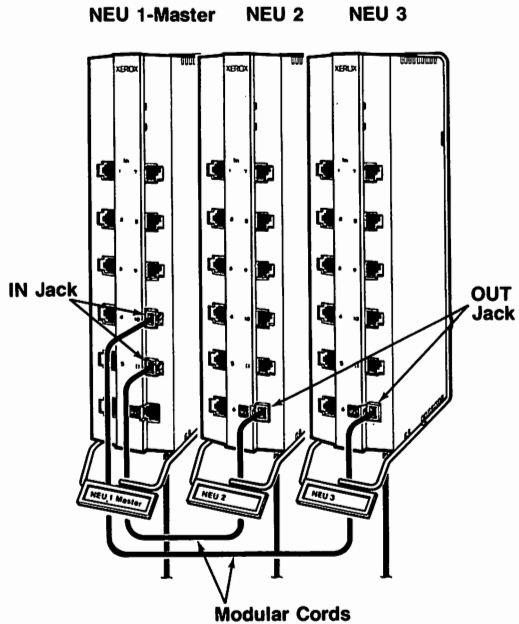

Fig. 2-9. Connecting a row of NEUs
15. Plug one end of the D8W cord into the OUT jack of NEU 2, as illustrated in Fig. 2-9.
16. Plug the other end of the cord into IN jack 11 on the NEU 1 -- Master (Fig. 2-9).